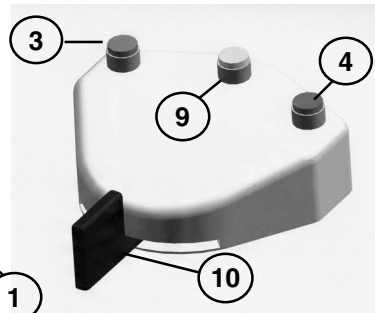

Fig. 7
- water pump on/off button (1) with orange indicator LED that lights when the pump is running;
- "reverse" button (2) with orange indicator LED; if the selected function requires "normal" rotation direction of tools, this LED must be off;
- the two commands described above are replicated also on the footswitch (Fig. 7), where the green left-hand button (3) controls starting and stopping of the water pump, and the red right-hand button (4) serves to reverse the direction of rotation of the tools;
- "Up ▲" (5) and "Down ▼" keys (6) to edit the field currently selected on the display (8);
- "shift" key (7) to select the field to edit on the display (8);
- two-line display (8); the display shows editable parameters which must first be selected by pressing the "shift" key (the cursor flashes on the selected field) and can then be edited using the "Up ▲" and "Down ▼" keys.
- the footswitch (Fig. 7) is equipped with a yellow button (9) that serves to change the preset program when used in conjunction with the green (3) or red (4) buttons;